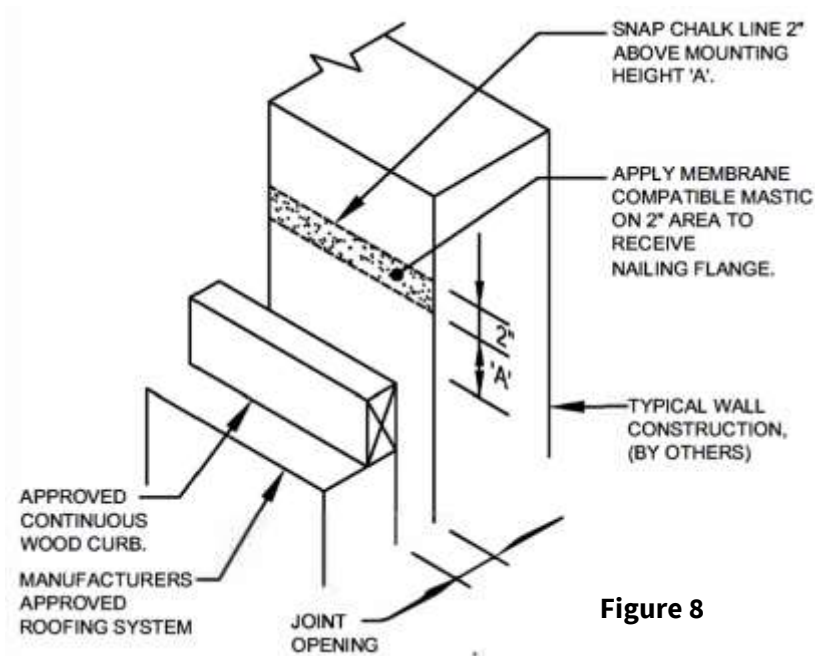

Figure 8
9. Snap chalk line 2" above mounting height 'a'. See mounting height 'a' chart. Apply membrane compatible mastic on 2" wide area to receive nailing flange. **See Figure 8**